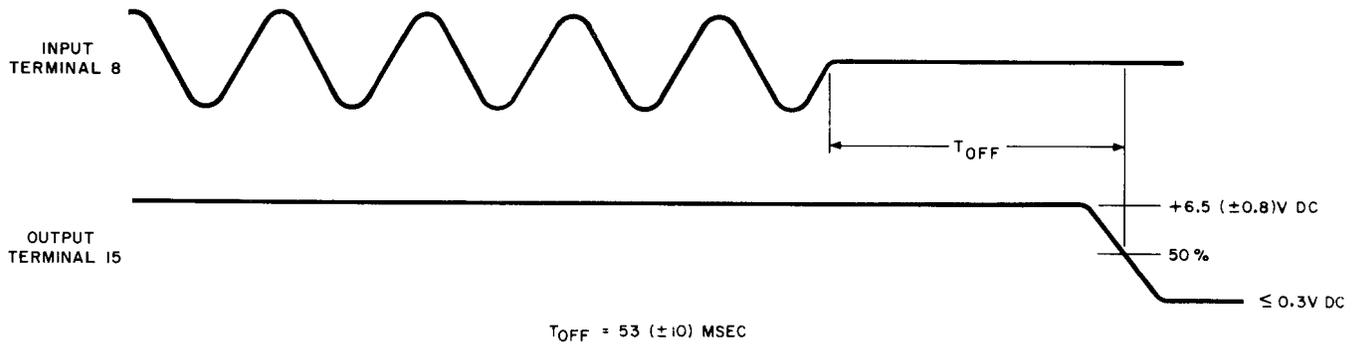

Fig. 30A — Automatic Gain Control 2 Test
(5) Set the scope EXT SYNC TRIGGER selector to the (−) negative position. The input and output waveforms shall be as specified in Fig. 30A.